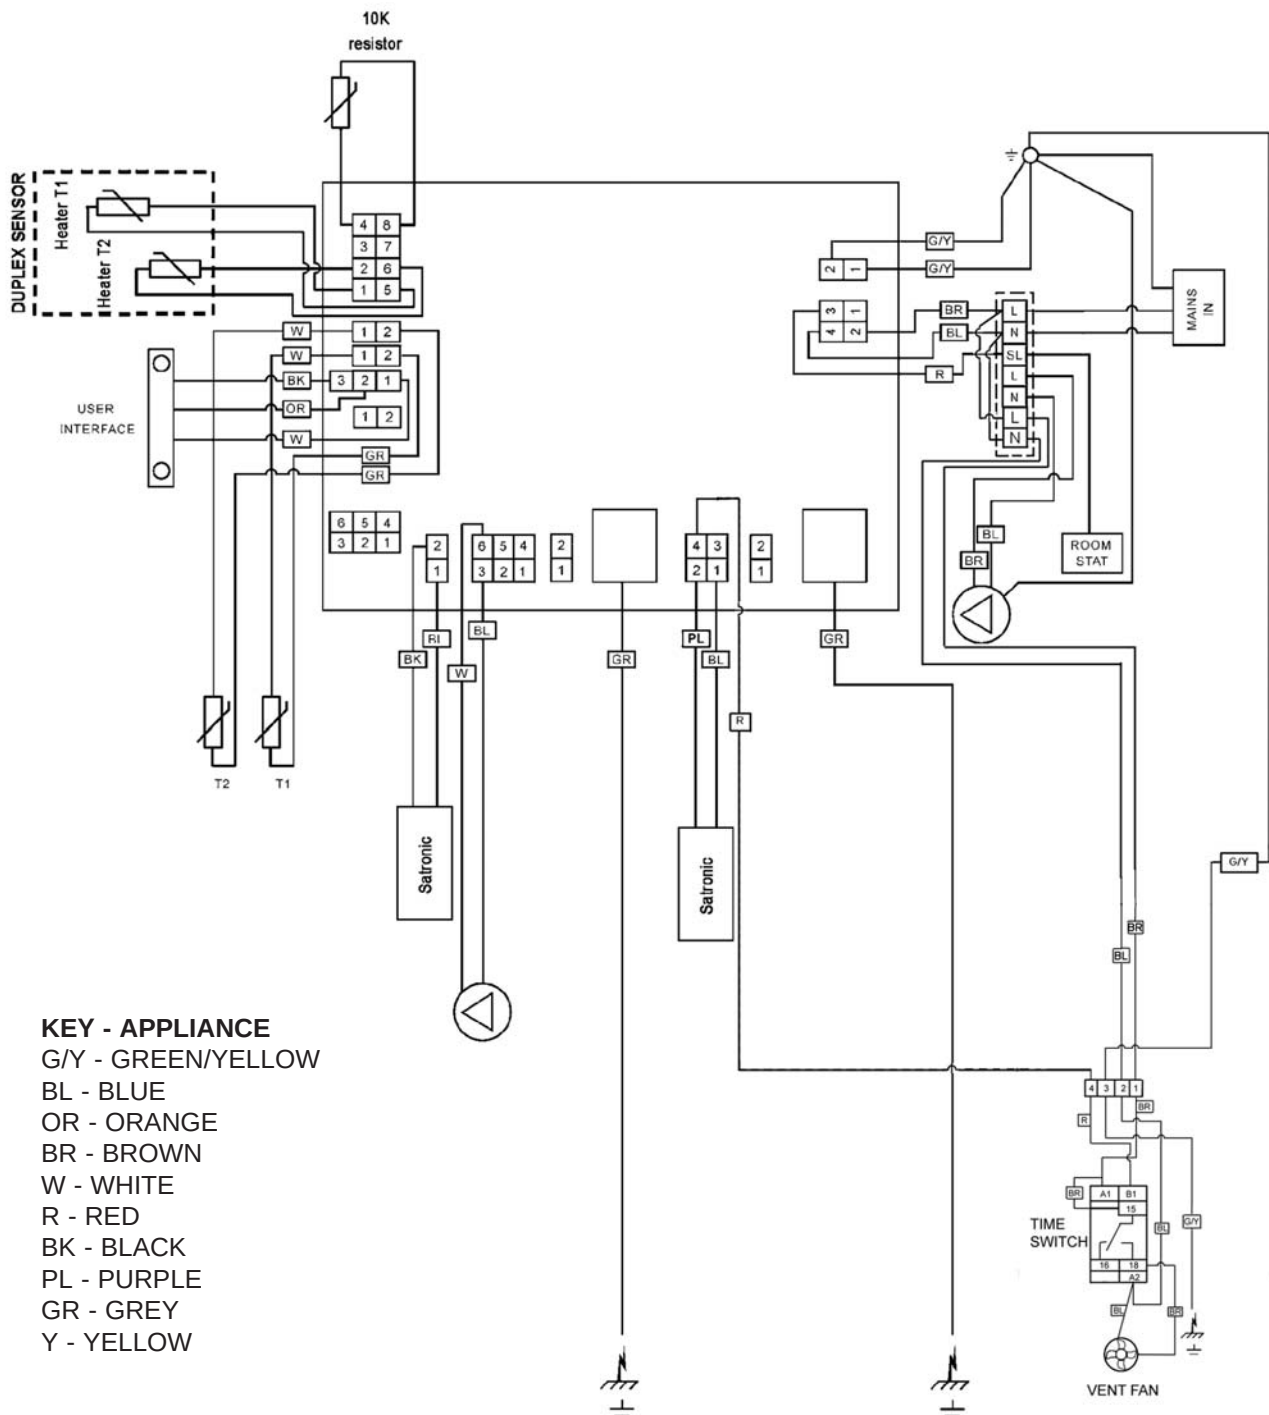

Fig. 6
1. Make electrical connections to terminal strip as wiring diagram. (See Fig. 6 or 7).